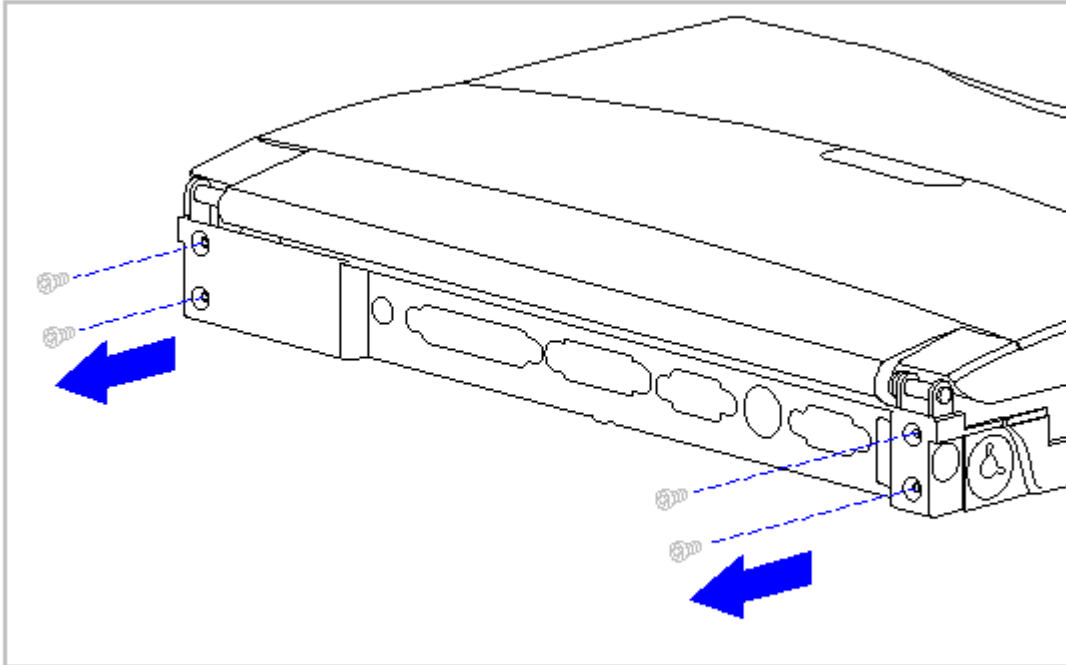

Figure 3-71. Removing the Rear Clutch Screws (All Models)
7. Remove the four clutch screws from the rear of the system unit module (Figure 3-71).